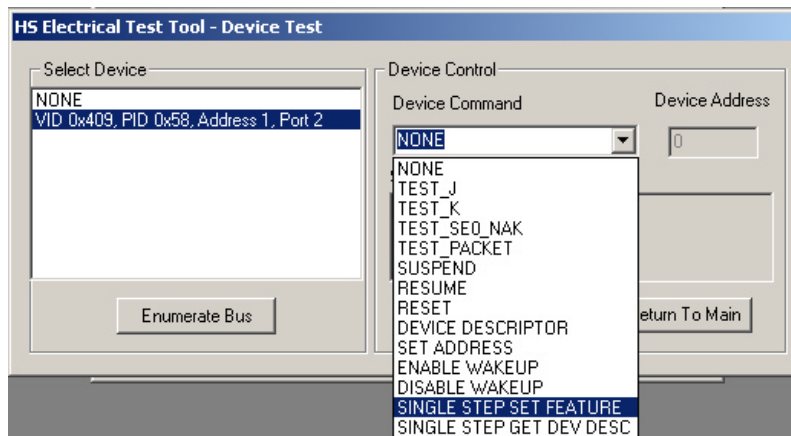

Figure 23. Single Step Set Feature on the Device Downstream of the Hub
- a. Select SINGLE STEP SET FEATURE from the Device Command window (Figure 23).